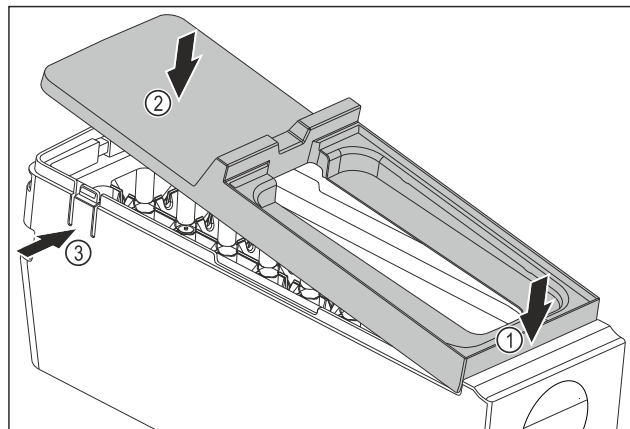

Fig. 215
- Installing the EasyTwist-Ice body cover: Place the cover on the front. Fig. 215 (1)
- Lower the cover at the rear. Fig. 215 (2)
- The cover locks into both tabs Fig. 215 (3) audibly.